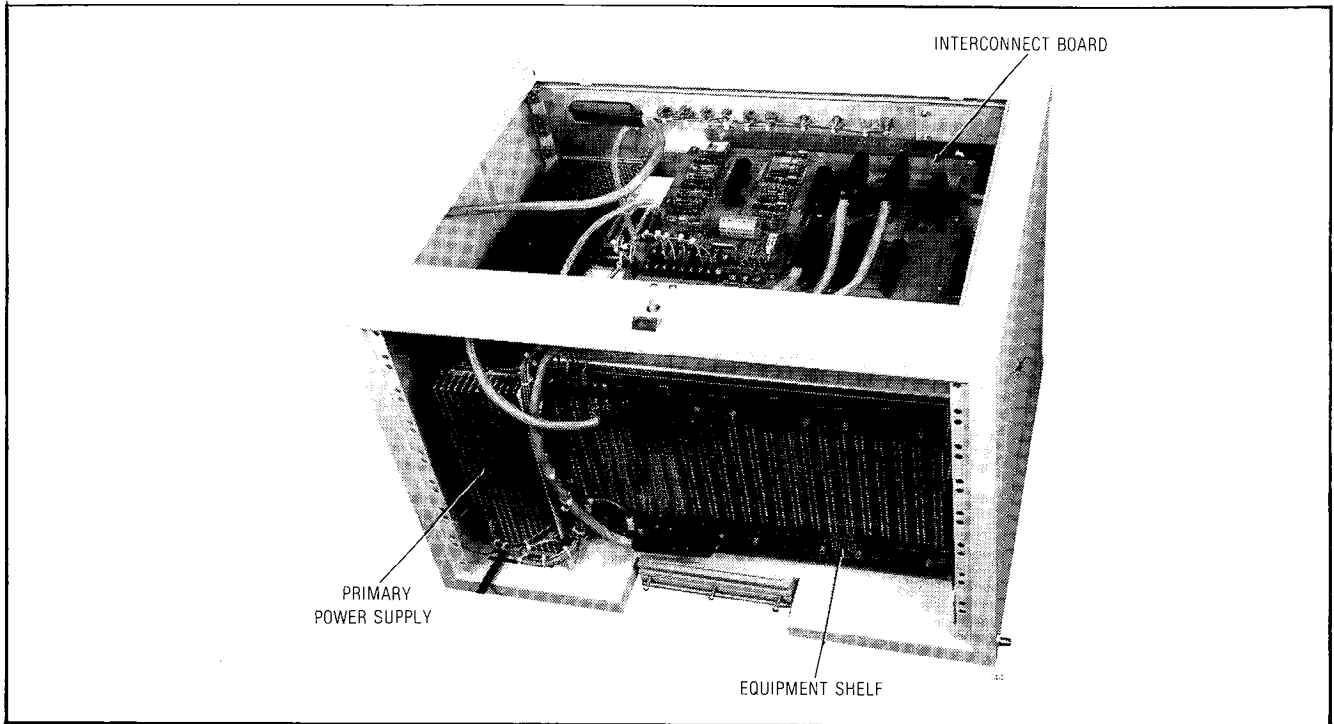

Fig. 2-5 Primary Power Supply
2.15 The system primary power supply (Fig. 2-5), mounted to the right of the equipment shelf (total weight 15lbs (35Kg)) provides all system power from a 115Vac, 48Hz to 64Hz commercial supply.